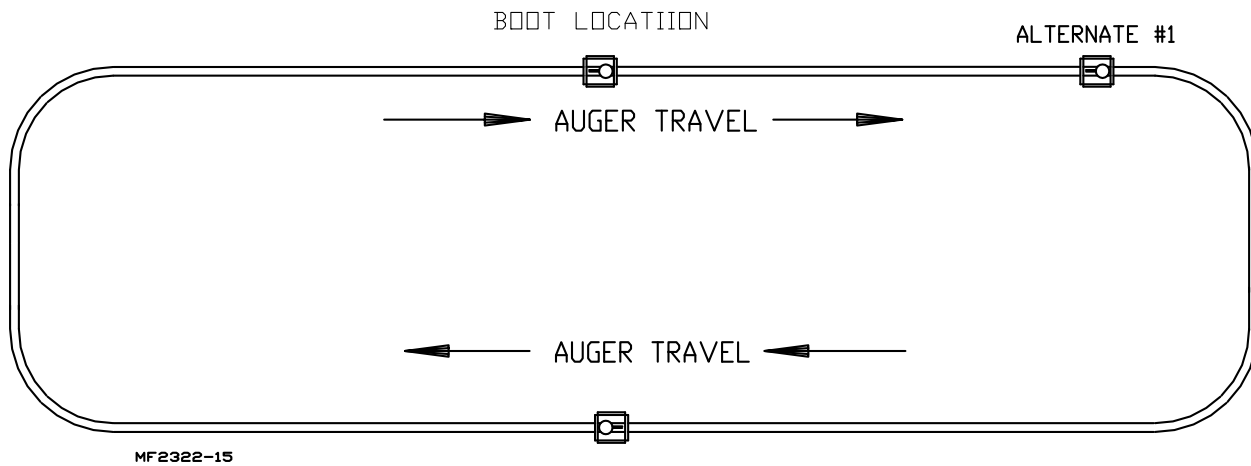

Figure 46. Feeder boot Layout
2. Systems with two (2) feeder boots (systems with over 500' [152 m] total auger length) must have feeder boot located as specified in *“Planning the System”* on page 8.
Systems with one (1) feeder boot (systems less than 500' [152m] total auger length) may have the feeder boot located as specified, see **Figure 46**.